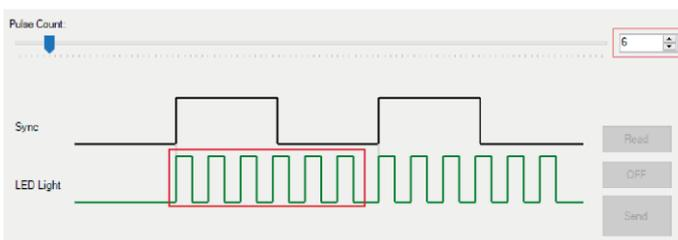

Figure 49: Pulse Count
- Adjust pulse count (Figure 49, Page 58).